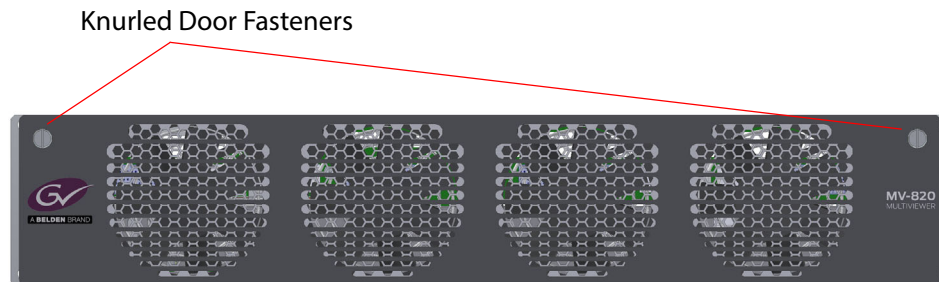

Figure 17 MV-820 Multiviewer Front View, Door Closed (MV-820-HDBNC shown)
The front door has two knurled fastening screws and a grille, behind which are fitted four fans which draw air in at the front, see Figure 17.
1. Unscrew the two captive knurled door fasteners, see Figure 17.